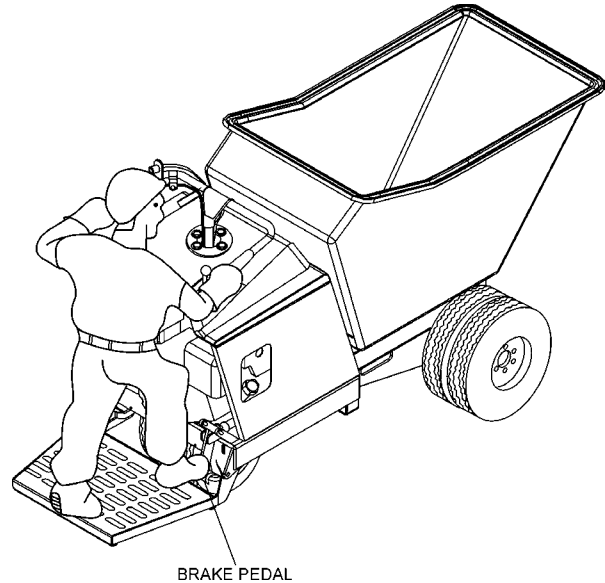

Figure 18. Brake Pedal
3. When using the buggy for the first time, test the brake. With the right foot, step up and place it on the brake pedal (Figure 18). Gradually apply pressure to the brake pedal until the buggy comes to rest.